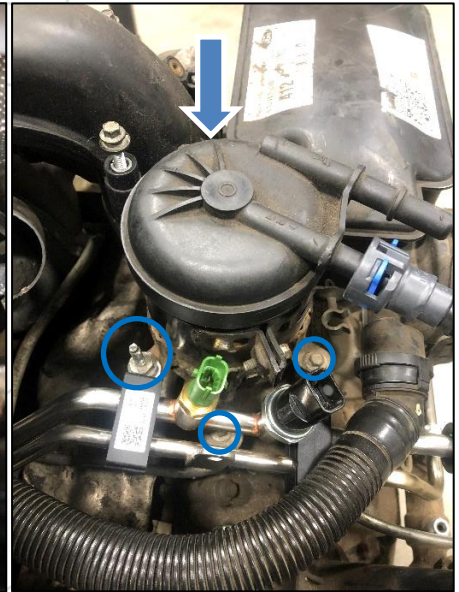

Figure 4: Fuel Filter housing removal
- e. Remove fuel filter housing for extra room to remove intake. 4 bolts (Figure 4) may have to push/rotate fuel hardline upwards to access the bolt under them. Once you remove the fuel line, place it back on the lower hardline to keep it clean. Take special care to not introduce debris into the filter or fuel line.